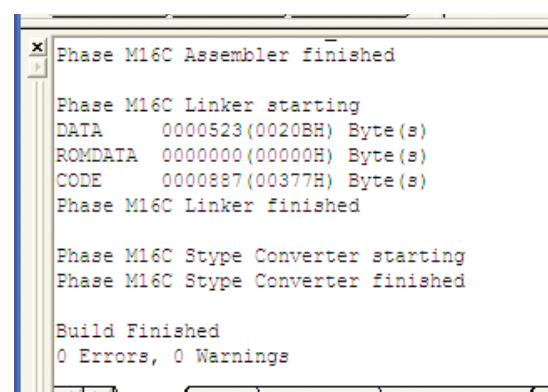

Figure 3. HEW with the skptestR8C project compiled
- g) Click the “Build” icon, , to compile, assemble and link the project. HEW will look similar to Figure 3.